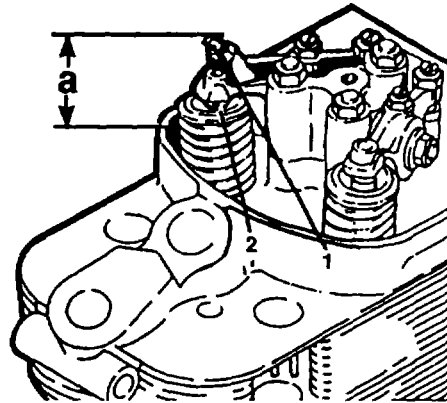

Figure 3-22. Adjusting Thrust Screw
- g. With valves closed, i.e., piston in compression TDC, press thrust pad (2) by hand against the valve stem end (figure 3-22).
- i. Setting the thrust screw (1). Loosen hex nut (3) by 2 to 3 turns with a 13 mm open end wrench.